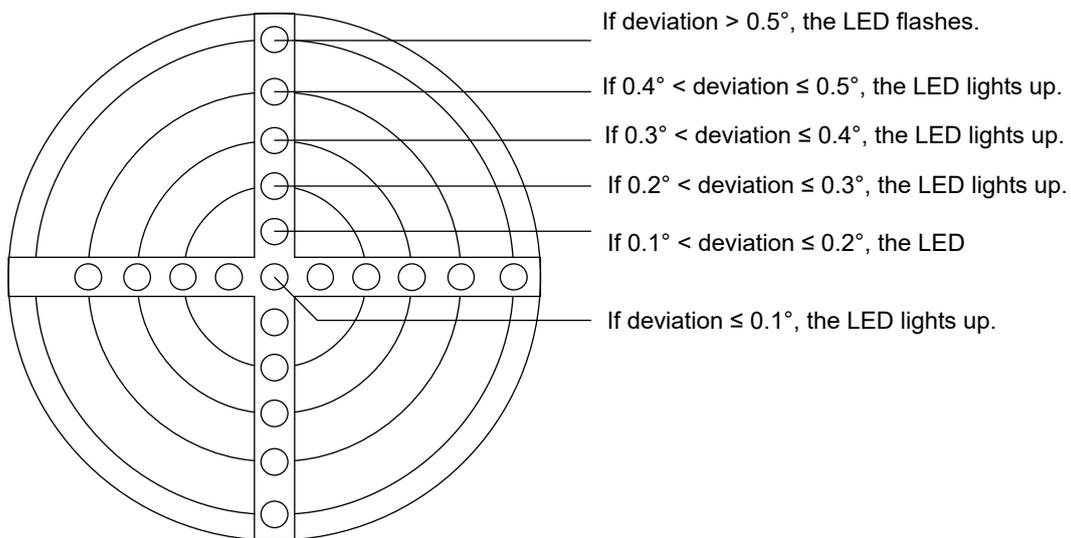

Figure 3-58 Inclinometer
- g) Examine whether the crane is level with the inclinometer (Refer to Figure 3-58). Inclination angle should be no more than 0.1° . Press buttons to align the crane horizontally. If the vehicle is not horizontal, retract or extend the outrigger to level the crane.